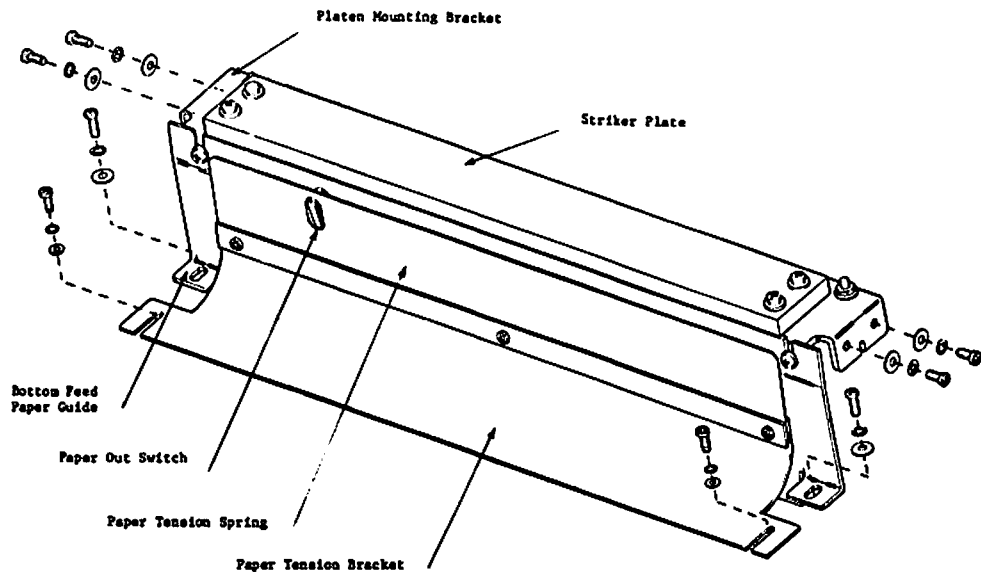

FIGURE 5-3 PAPER GUIDE ASSEMBLY
5.3.1 PAPER GUIDES (Figure 5-3)